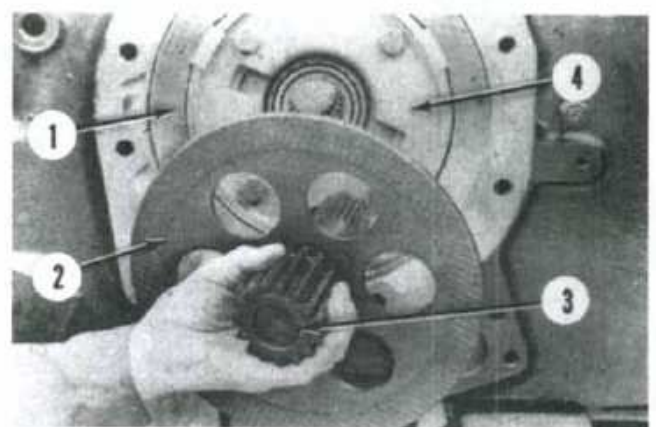
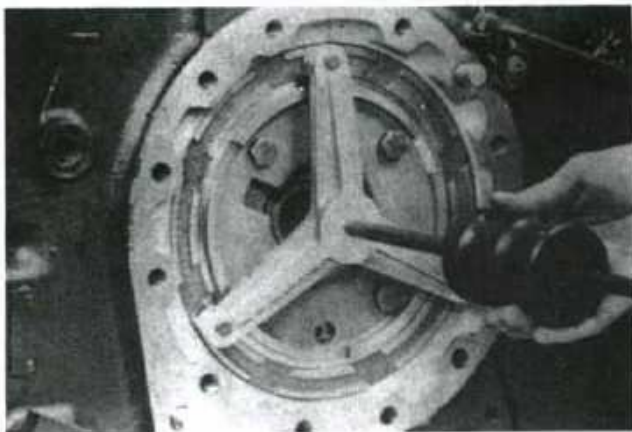

Fig. 143—Planetary drive shaft and brake disc being removed from differential housing.
Fig. 144—Use special tool IH7847A and slide hammer to remove brake piston.
123. R&R AND OVERHAUL. Removal of either brake is accomplished by removing final drive as outlined in paragraph 118. Refer to Fig. 143 and remove planetary drive shaft (3), brake disc (2) and inner brake ring (1). Use special tool IH 7847A and a slide hammer to remove brake piston as shown in Fig. 144. Remove "O" ring from brake piston. Unbolt and remove differential bearing housing (4—Fig. 143), being careful not to lose shims. Apply petroleum jelly to grooves in bearing housing, then install new "O" rings. Reinstall brake housing and shims and using Loctite 241 on cap screw threads, tighten cap screws